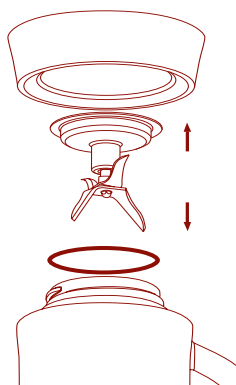

*Figure 6*
5. Press the two Ice Hopper release catches and lift the Ice Hopper to remove (Figure 6).